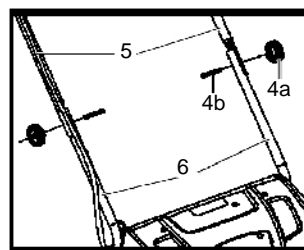

Fig. 2
b). Align the middle handle bars (5) to the lower ones (6). Make sure the holes in the handle bars (5, 6) correspond and secure them with one mounting set (4) on each side. (See Fig. 2).